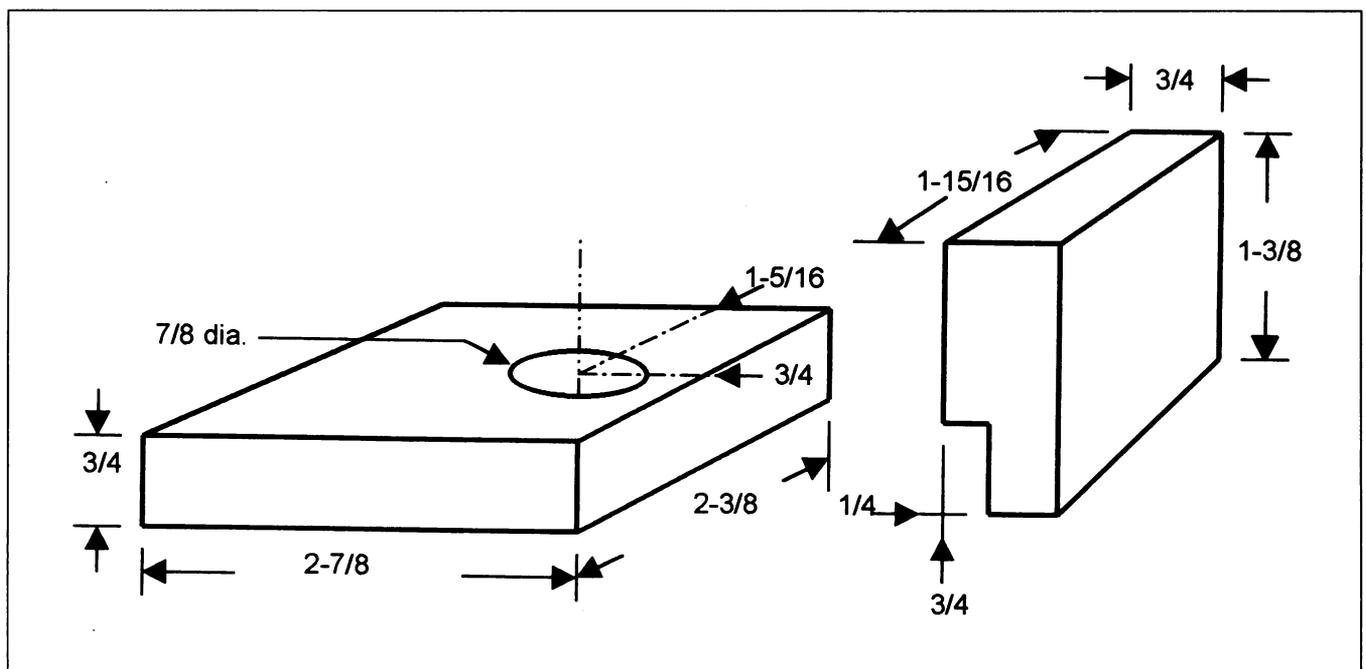

Figure 2. Base (left) and solar cell support (right). Both pieces are cut from 1-inch stock boards. All measurements are in inches.
1. From a 1" stock piece of wood (1" stock = 3/4" thick) cut a rectangle that is 2-7/8" long by 2-3/8" wide. This piece will serve as the base (Figure 2).
3. From another piece of 1" stock, cut a 1-15/16" × 1-3/8" rectangle. This will serve as a support for the solar cell. In one of the broad faces cut a 1/4" deep mortise that extends across the length from one side inward 3/4" (Figure 2).